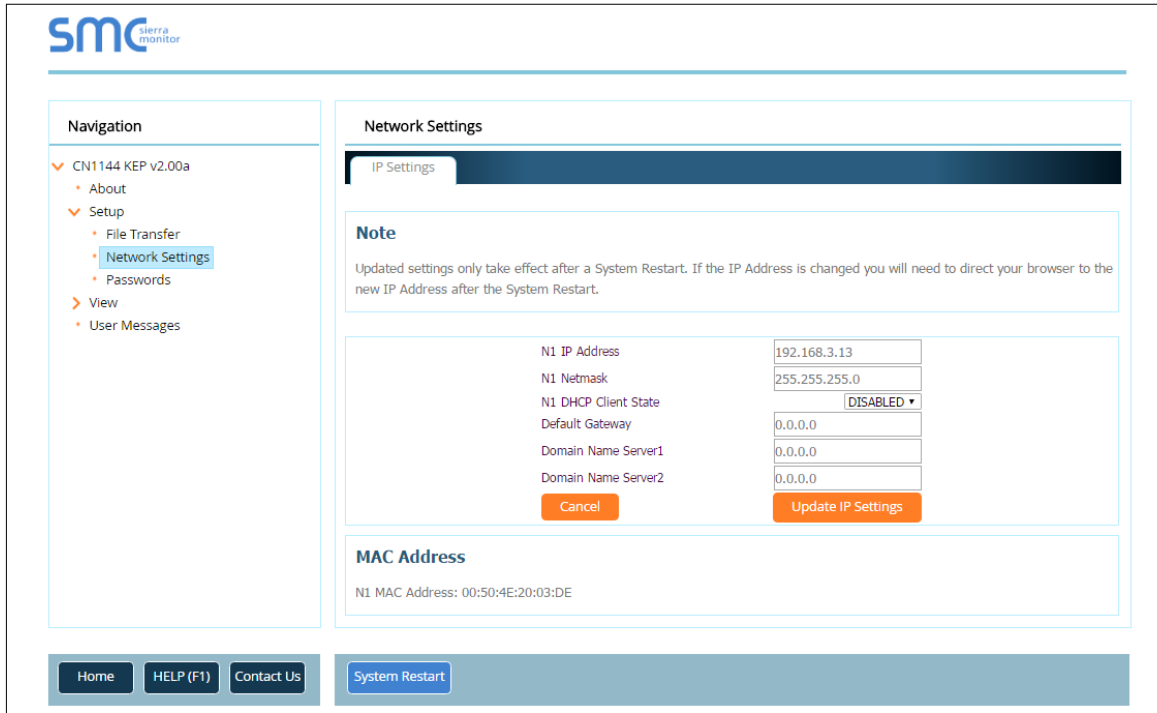

Figure 13: Changing IP Address via Web GUI
- From the Web GUI landing page, click on “Setup” to expand the navigation tree and then select “Network Settings” to access the IP Settings menu. (Figure 13)